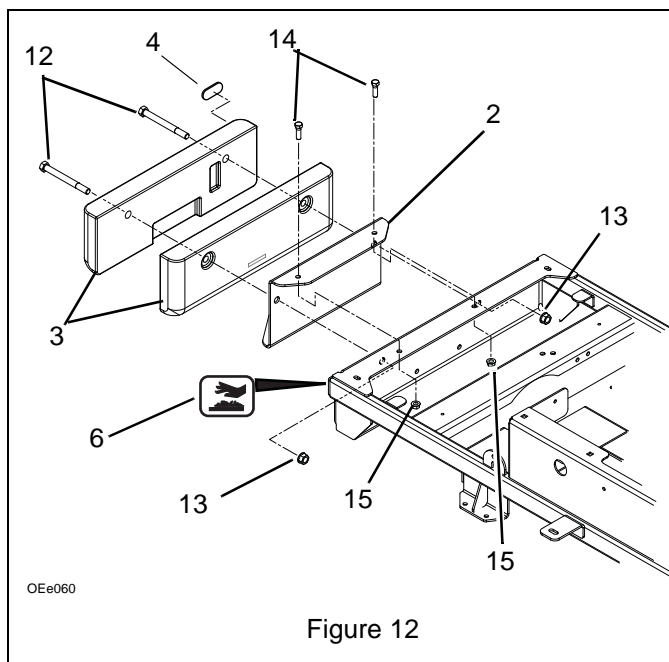

Figure 12
(Figure 12)
1. Position the weight bracket (item 2) in the center of the rear frame rail so the two 1/2" mounting holes align with the holes in the rear frame rail. Use weight bracket as a template to lay out two 7/16" mounting holes in the top of rear frame rail.
2. Drill two 7/16" holes through the upper frame rail as shown in figure 12.
3. Install the weight bracket (item 2) on the rear frame rail with two 3/8"-16 x 1-1/4 hex bolts (item 14) and 3/8"-16 top locking flange nuts (item 15).
4. Install the two cast iron weights (item 3) on weight bracket (item 2) with two 1/2"-13 x 5 hex bolts (item 12) and 1/2"-13 top locking flange nuts (item 13). The bolts go through the weights, weight bracket and frame.
5. Install two hot surface decals (item 6) on unit.
6. Install two reflectors (item 4) on cast iron weight (item 3).
1. Remove counterweights (see figure 12 on page 13).